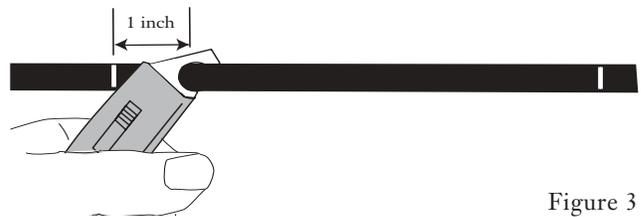

Figure 3
Step 1 Use the hook-blade knife to carefully ring cut the outer sheath approximately 2.5 cm (1.0 inch) inside each tape mark (Figure 3).